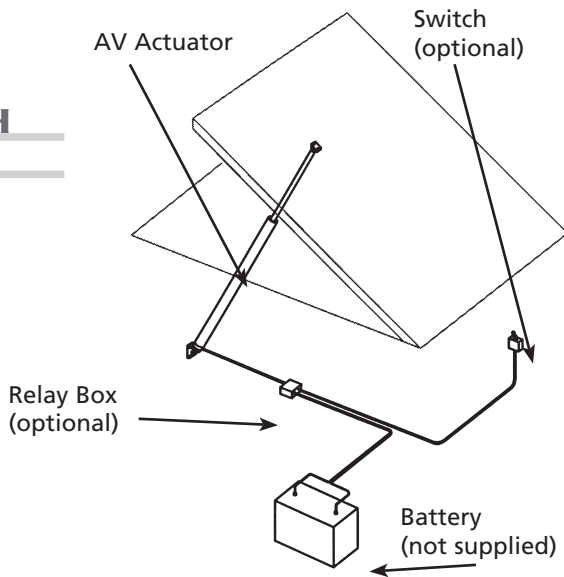
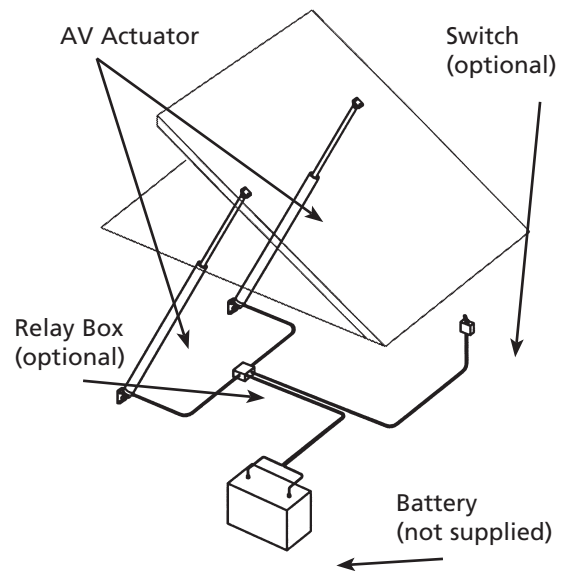

Fig. 1
Fig. 2
- n° 1 AV actuator for single installation (Fig.1); n° 2 AV actuators for dual installation (Fig.2)